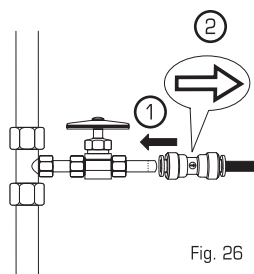

Fig. 26
7. Connect the tube from the cold water supply to the screen side of the Supply Connector on Pressure Regulator Assembly (1). Arrow in balloon shows water flow direction (2) (Fig. 26).